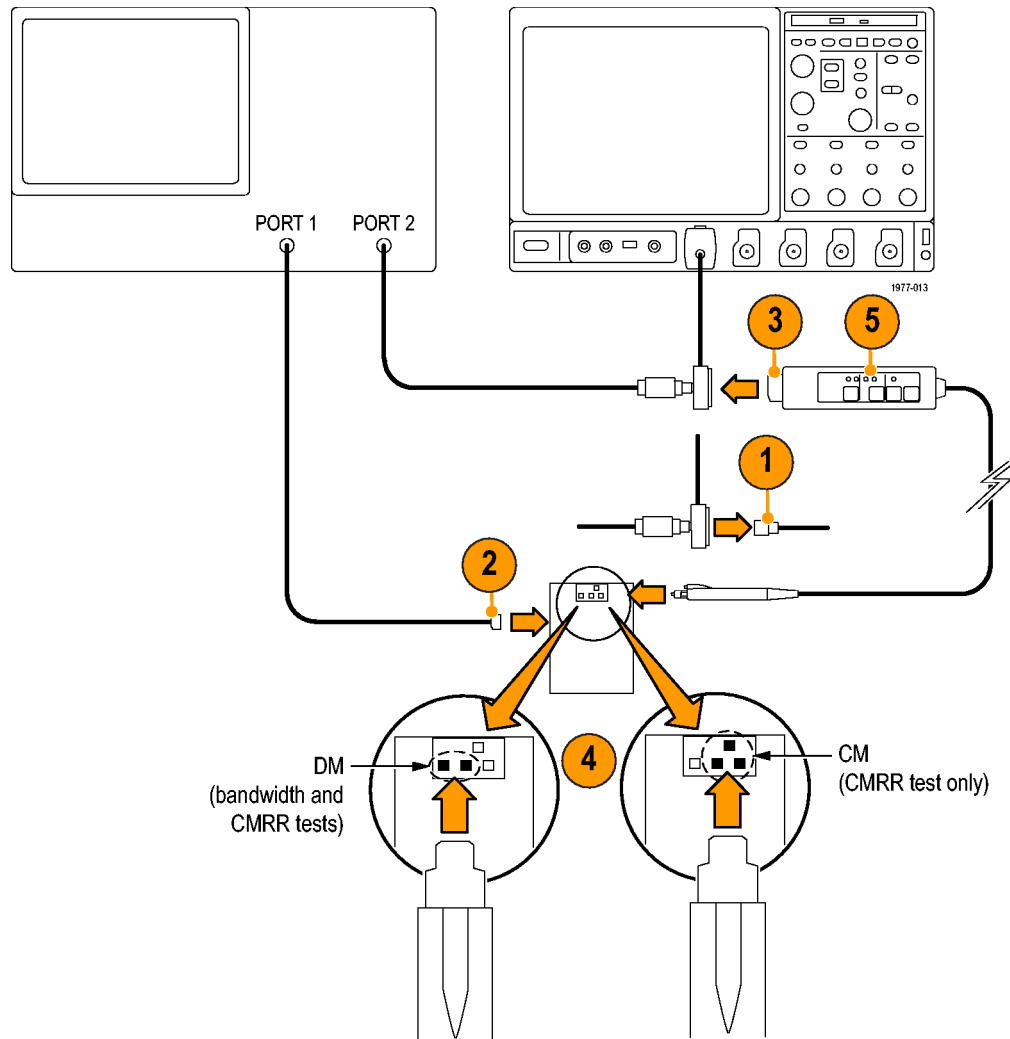

Figure 11: Setup for the analog bandwidth and CMRR tests
4. Connect the probe head to the DM pins on the Probe Tip to BNC adapter. Polarity is unimportant, but do not connect the ground pin. (See Figure 11.)
6. Disconnect the probe input from the DM pins and connect it to the CM pins on the Probe Tip-to-BNC adapter. Do not connect the probe to the ground pin on the fixture. (See Figure 11 on page 20.)